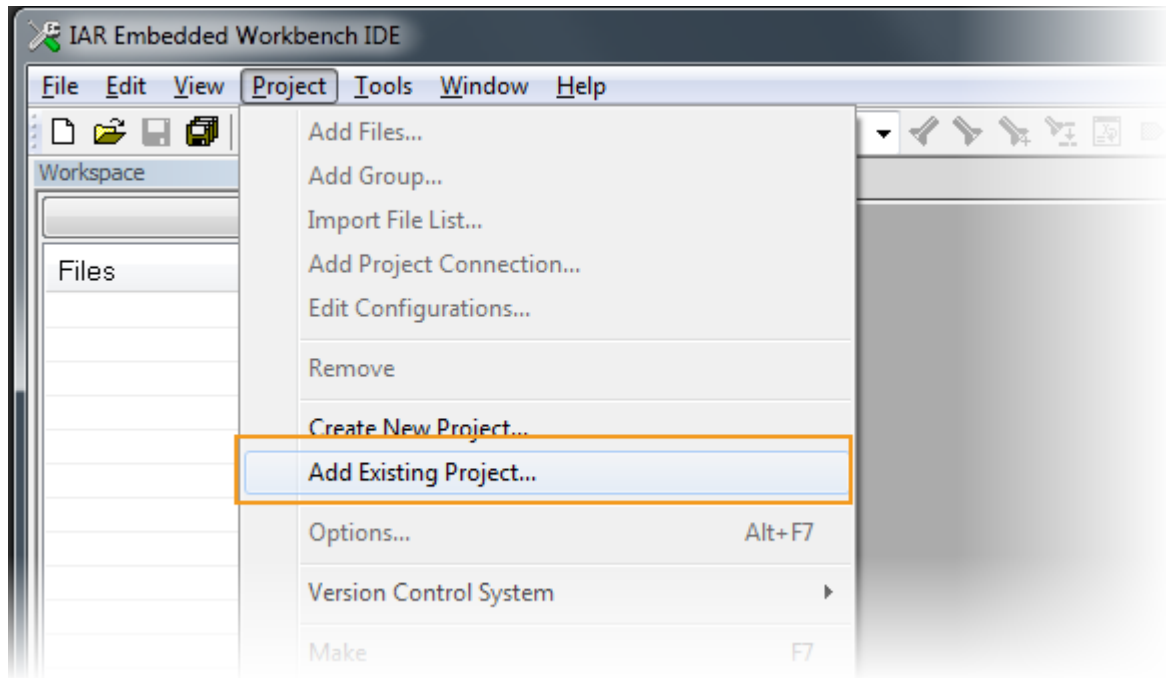
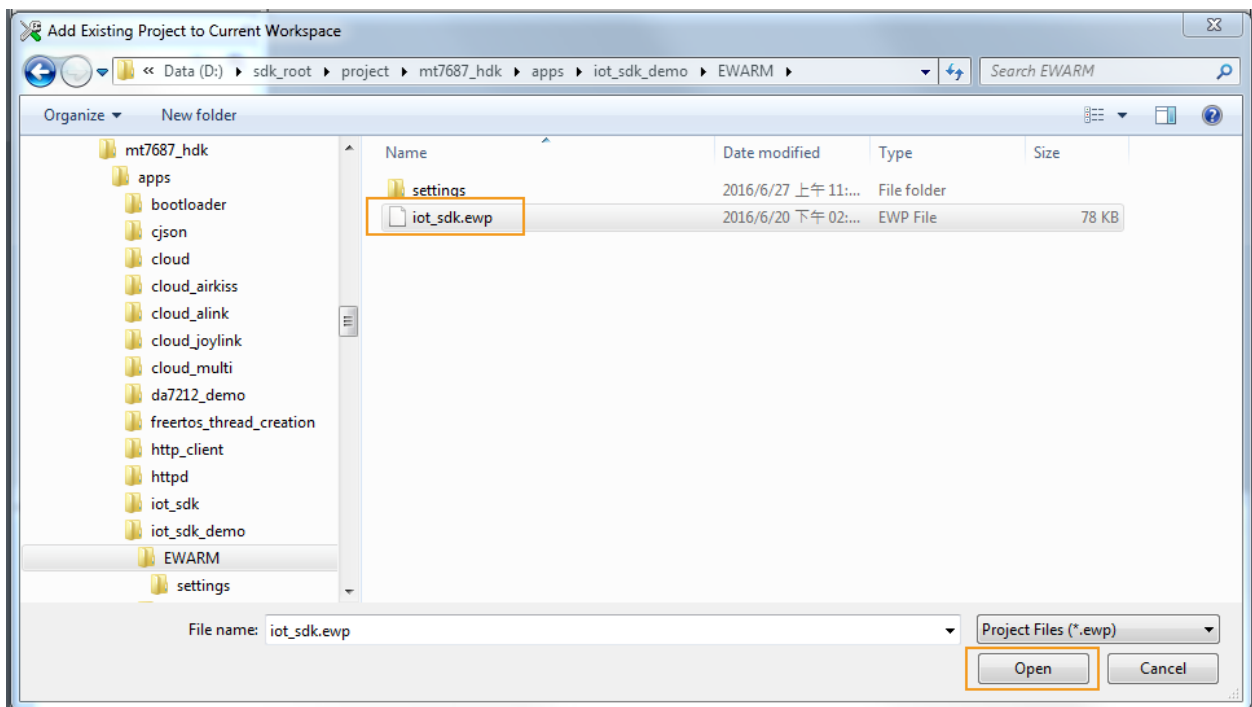

Figure 59. Importing the preconfigured project
Figure 60. Adding an existing project
- a) Navigate to **Project** (see Figure 59) in the IDE's main menu, then **Open Project**. Click **Open** to import the project. The project file is named as <project>.ewp, such as the one shown in Figure 60.